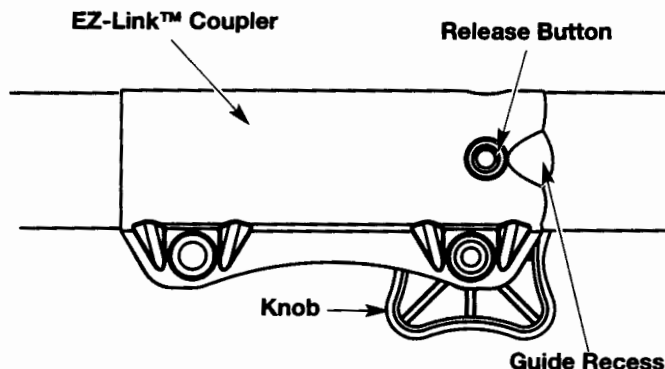

Fig. 19
1. Turn the knob counterclockwise to loosen (Fig. 19).
2. Press and hold the release button (Fig. 19).
1. Turn knob counterclockwise to loosen (Fig. 19).
**NOTE:** Aligning the release button with the guide recess will help installation (Fig. 19).
3. Turn the knob clockwise to tighten (Fig. 19).